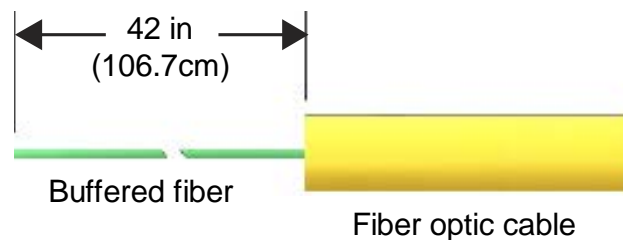

Figure 6 Preparing the Cable for Termination or Splicing
1. Prepare the cable as shown in Figure 6.